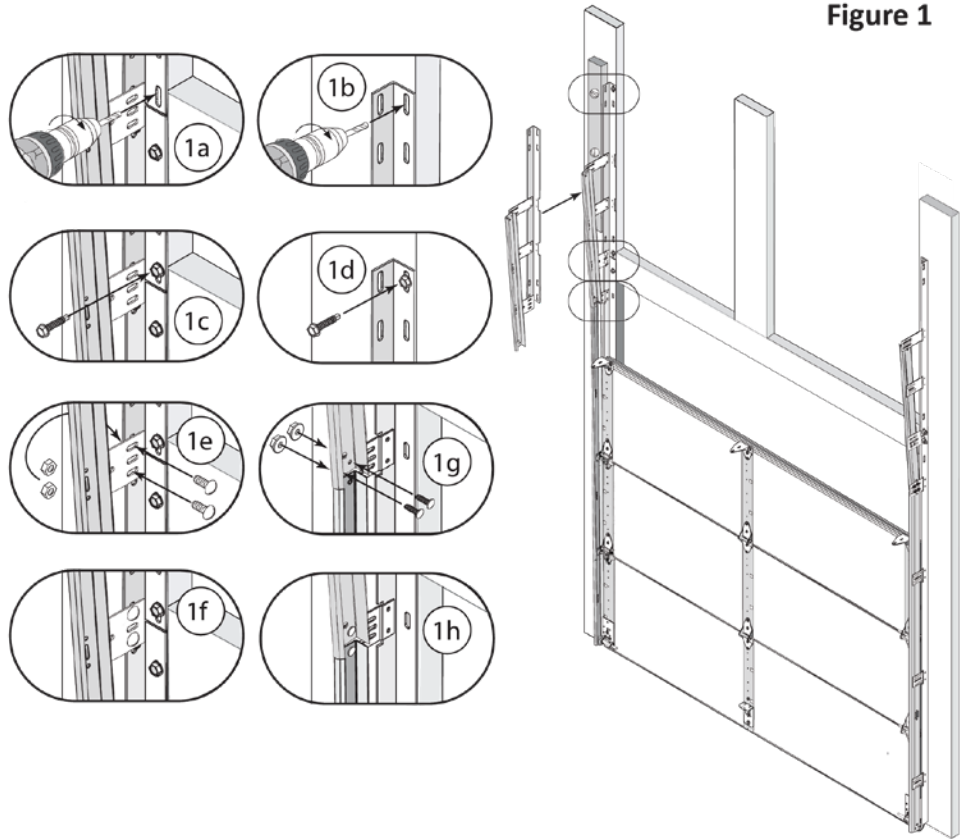

Figure 1
Step 1: Installing the Left Side Vertical Lift Assembly (VL). Raise the VL Assembly so that the VL Angle and Track align with the Lower Vertical Track and Angle (Figure 1).